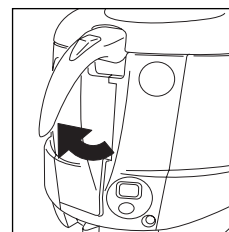

fig. 1
- Raise the basket into the top position by pulling the handle upwards (fig. 1).